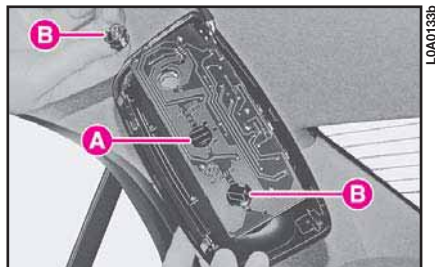

fig. 35
2) To remove bulb holders turn them anticlockwise (**fig. 35**).